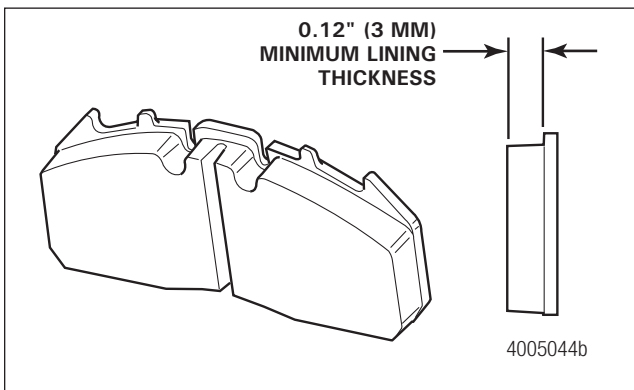

Figure 6.13 Measure the lining thickness.
10. Measure the friction material thickness on the brake pad. Replace brake pad assemblies before the lining thickness reaches 0.12-inch (3 mm). Figure 6.13.